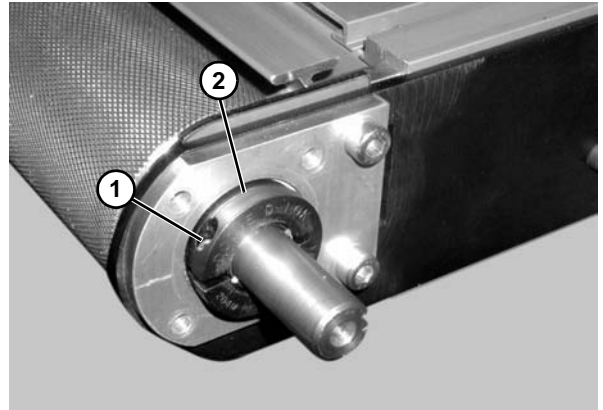

**Figure 68**
3. Remove four shaft cover screws (Figure 68, item 1). Remove the shaft cover (Figure 68, item 2).